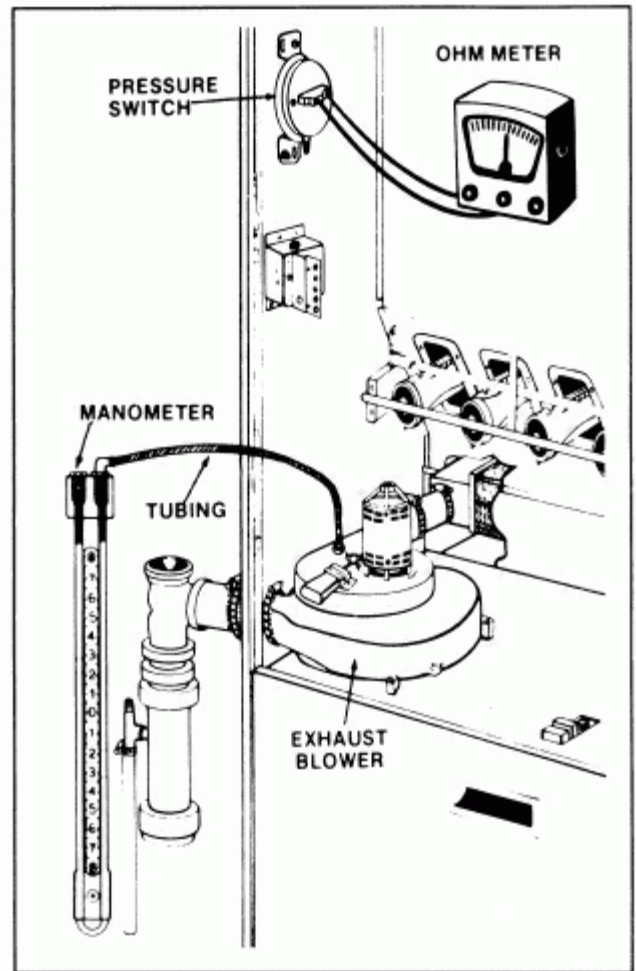

Figure 16
2. Pull tubing from pressure switch and install turning end to a “U Tube” manometer. (Figure 16)